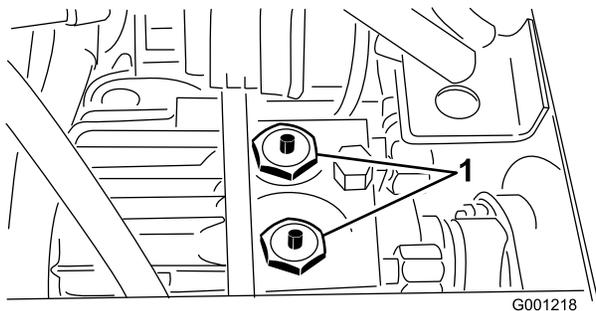

Figure 33
2. Press and hold the pins located in the center of the 2 check valve assemblies in the top of the transmission (Figure 33) while pushing or towing the machine. Figure 33 is shown with seat and seat mounting plate removed.